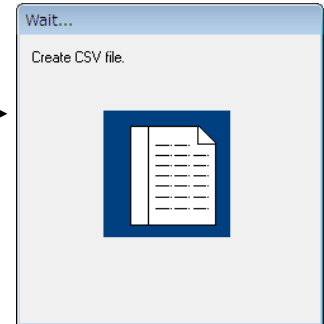

Figure 5 CSV File Outputting Window
The window of which the CSV file is being output shown in Figure 5 is displayed, and the CSV file is output in the directory specified in Step (2) after completing the processing.